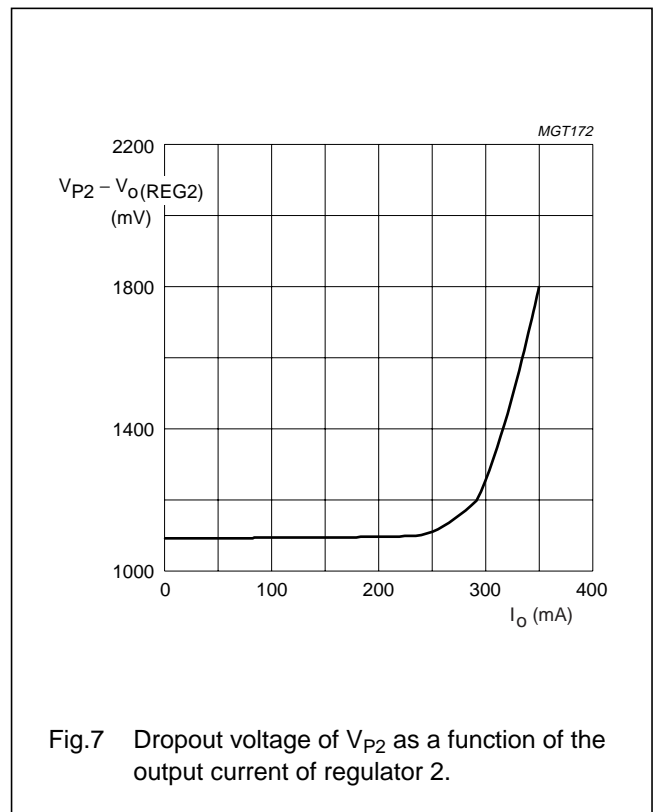

Fig.7 Dropout voltage of V_{P2} as a function of the output current of regulator 2.
5. The dropout voltage of regulator 2 is the voltage difference between V_{P2} and $V_{o(REG2)}$ and depends on the load current (see Fig.7).